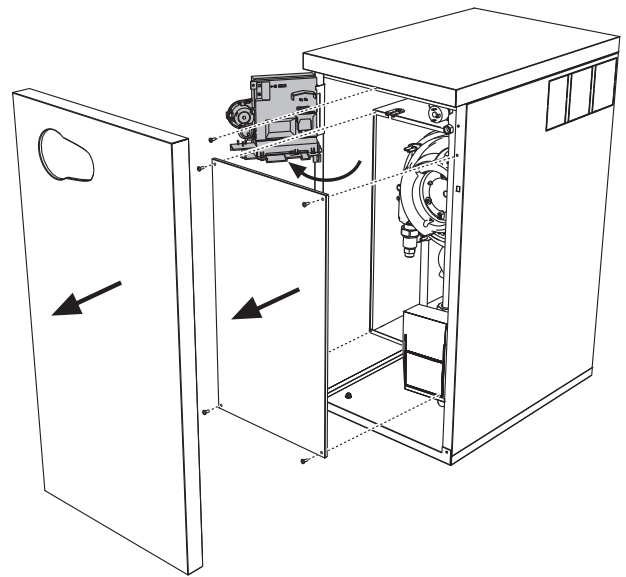

fig. 22
2. Remove the front panel and the panel of the sealed chamber (see fig. 22).
3. Undo the screw and rotate the control panel (see fig. 22).